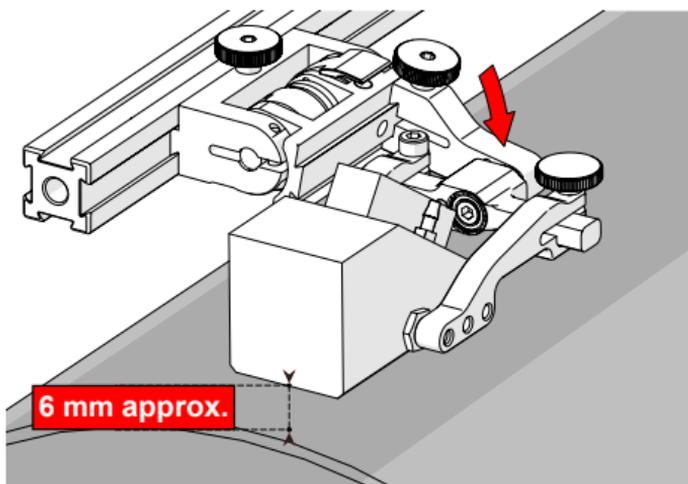

Fig. 97 - Lower to scanning surface
2. Push the probe holder yoke toward the inspection surface until the wedge is approximately 6 mm ( $\frac{1}{4}$  in) from the inspection surface (Fig. 97).